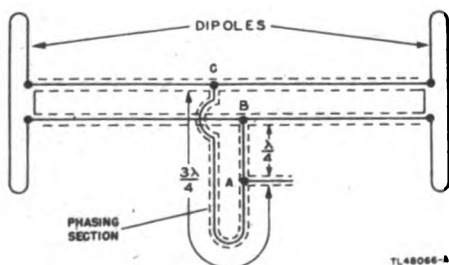
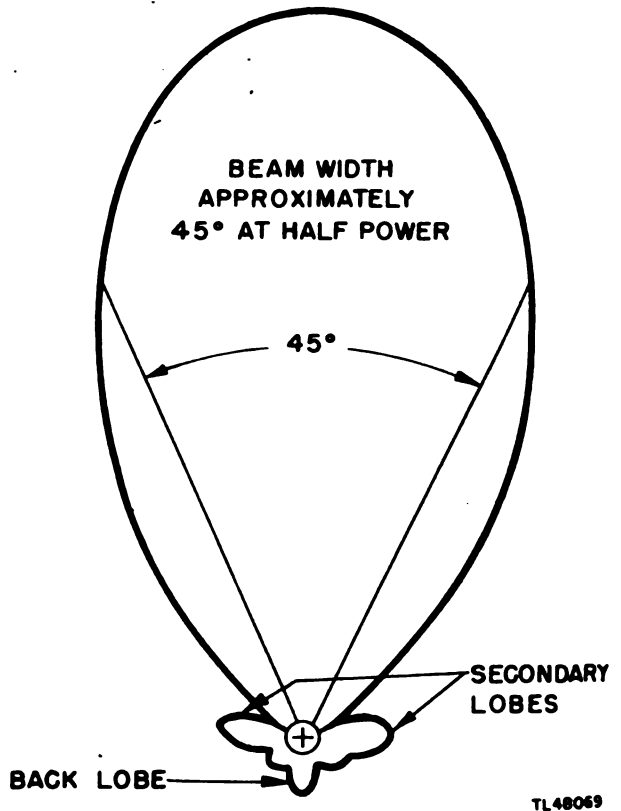

Figure 20. Antenna Assembly AS-109/TP, schematic diagram.
Figure 21. Antenna Assembly AS-109/TP, lobe pattern.
**b. Transmission Line.** The r-f transmission line consists of two 25-foot lengths of RG-8/U flexible coaxial cable. The cable is made up of a stranded copper inner conductor and a layer of insulating material covered with a flexible copper braid which serves as an outer conductor. The outer conductor is covered with neoprene insulation. The characteristic impedance of the line is approximately 52 ohms. This impedance value is matched to the antenna by connecting it to the 52-ohm J phasing section. The other end of the line is matched to the receiver-transmitter through the antenna-matching section (subpar. a(1) above). Thus the line operates as an efficient low-loss nonresonant line.
**c. Phasing Section.** The parallel feeder line of the antenna assembly is fed through a phasing section or J section (fig. 20), which is a loop of coaxial cable 1 wavelength long. The phasing section is fed at point A,  $\frac{1}{4}$  wavelength from one end. The maximum voltage difference that can be obtained between two equal voltages is obtained when the voltages are  $180^\circ$  out of phase. The phasing section is used to produce this desired condition. The distance from point A to C is  $\frac{3}{4}$  wavelength, or  $\frac{1}{2}$  wavelength longer than the distance from point A to B. Consequently, the signal traveling the path from A to C will lag the signal traveling from A to B by  $180^\circ$ . Thus the voltages produced at points B and C with respect to ground will be  $180^\circ$  out of phase. The voltage between B and C is therefore at a maximum and the greatest amount of energy is applied to the balanced 104-ohm coaxial line.
**d. Antenna Assembly (fig. 20).** The folded dipoles of the antenna assembly are approximately 31 inches long and are vertically mounted 42 inches apart. The six reflector rods are approximately  $39\frac{1}{2}$  inches long and are mounted in two groups, three behind each dipole. The two dipoles are fed in parallel by a 104-ohm coaxial line which is made up of two 52-ohm coaxial lines. Since the impedance between the center conductor and the outer conductor of each line is 52 ohms, and the outer conductors of both lines are connected together, the series impedance between the two center-conductors is 104 ohms. The phasing section connects to the 104-ohm line at the exact center and consequently the dipoles are fed in phase. This phase relationship in conjunction with the spacing between all parts of the assembly provides the directional characteristic of the antenna. The directional characteristics of the antenna are shown in figure 21 and are listed below:
- (1) *Beamwidth.*